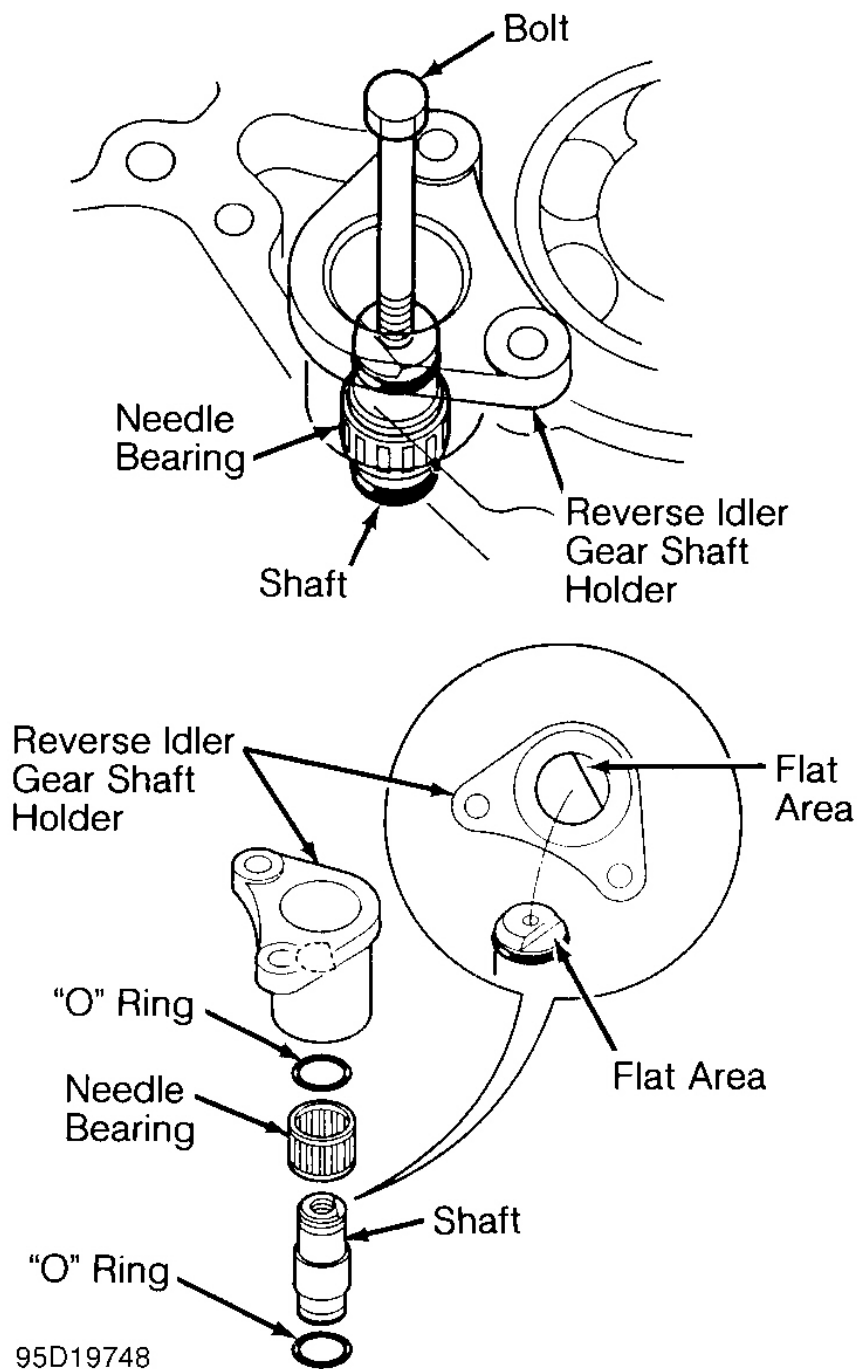

Fig. 10: Removing Idler Gear Shaft Holder & Components (1994 Models)
7. On 1994 models, remove bolts from reverse idler gear shaft holder. Screw bolt into center of shaft on reverse idler gear shaft holder. See **Fig. 10** . Pull reverse idler gear shaft holder with shaft and needle bearing from transaxle housing. Separate shaft with "O" rings and needle bearing from reverse idler gear shaft holder.